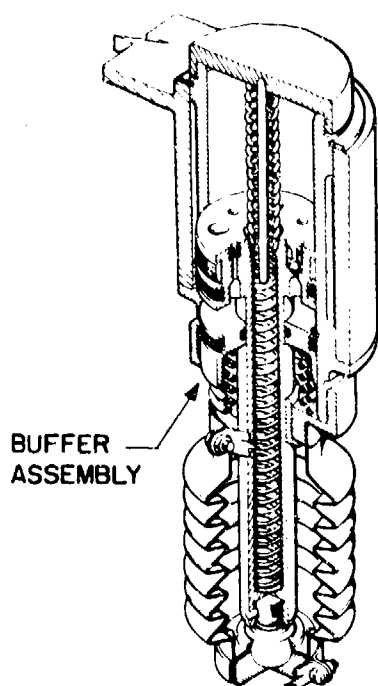

Figure 4-8. Buffer assembly.
(3) *Buffer assembly.* A hydraulic buffer assembly (fig 4-8) is secured to the front of the box trail. The buffer shoe bears upon the firing platform stiffening ring. This assembly acts as a buffer and prevents the carriage from tipping forward when the recoiling parts return into battery. The hydraulic buffer must be checked periodically for leaks. Any leak in the buffer is considered serious and must be checked by support maintenance personnel. A quick-release type of locking assembly is provided for securing the platform to the box trail assembly pivot. This platform locking assembly is secured in its engaged position by a quick-release pin. The firing platform can be disengaged for separate emplacement or for abandonment if necessary.